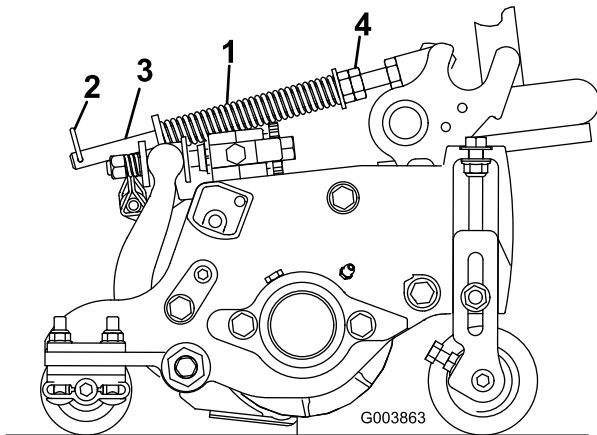

Figure 13
1. Make sure the hairpin cotter is installed in the rear hole in the spring rod (Figure 13).
2. Tighten the hex nuts on the front end of the spring rod until the compressed length of the spring is 6.25 inches (15.9 cm) (Figure 13).